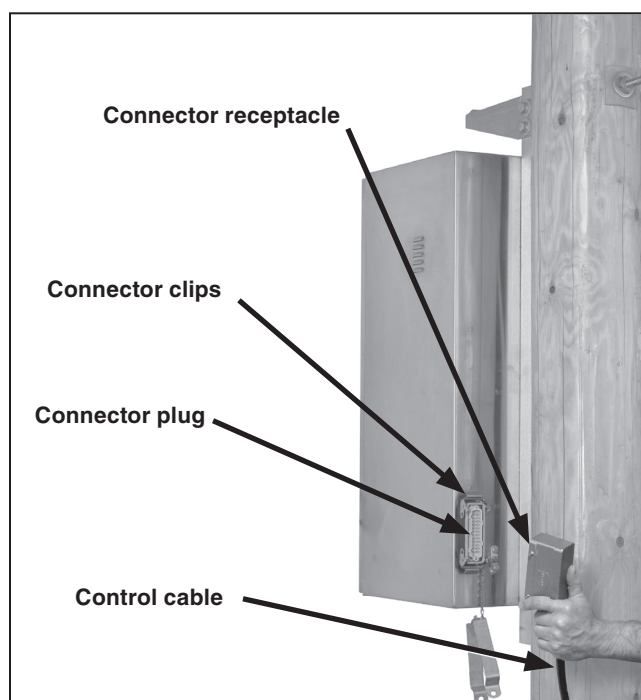

Figure 22. Connecting the control cable to the control unit enclosure.
STEP 20. Locate the connector plug on the back of the control unit enclosure, remove the dust cover, and attach the receptacle from the control cable. Secure the connection with the connector clips. See Figure 22. Retain the dust cover for future use.